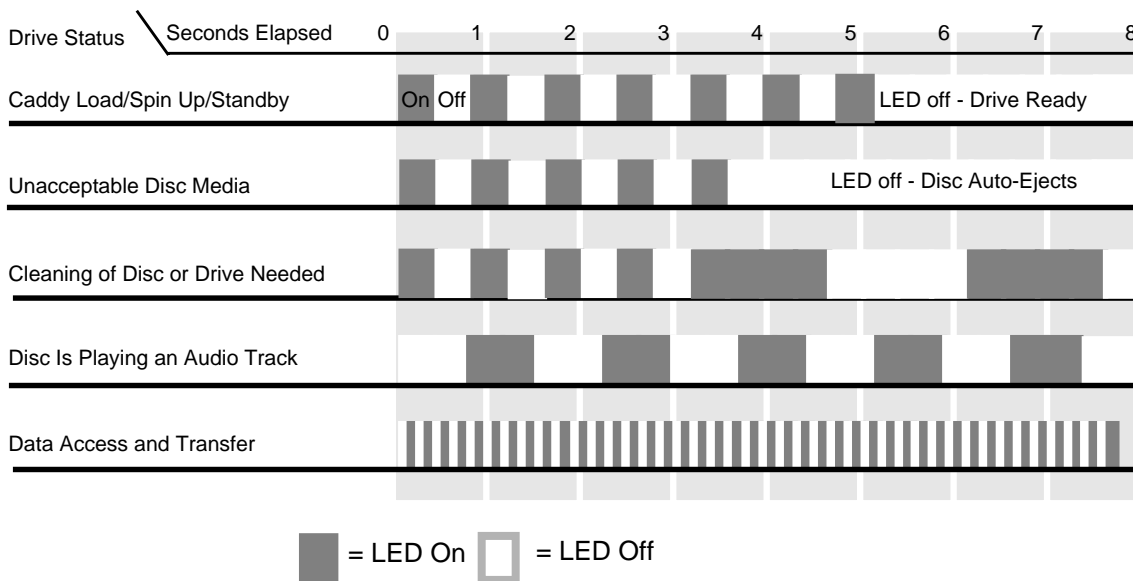

Figure B-3 CD-ROM Drive LED Status Indicators
3. Dip a clean, non-fibrous cotton swab in either tape head cleaning fluid or Freon-TF, and wipe the tape head (see Figure B-3).